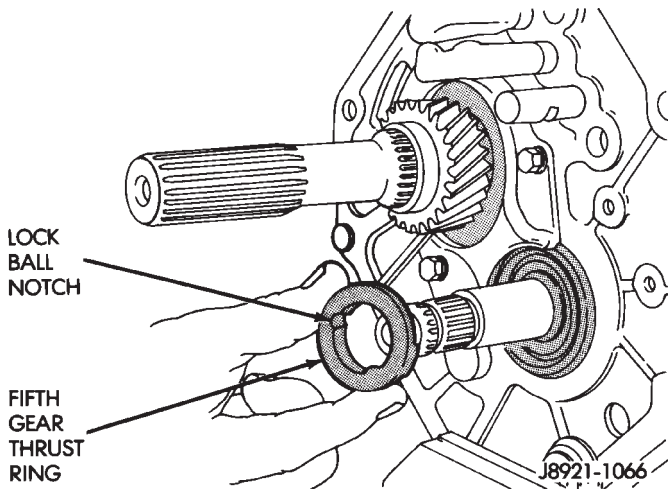

Fig. 98 Installing Fifth Gear Thrust Ring
- (2) Install fifth gear thrust ring (Fig. 98). Be sure thrust ring notch fits over lock ball.